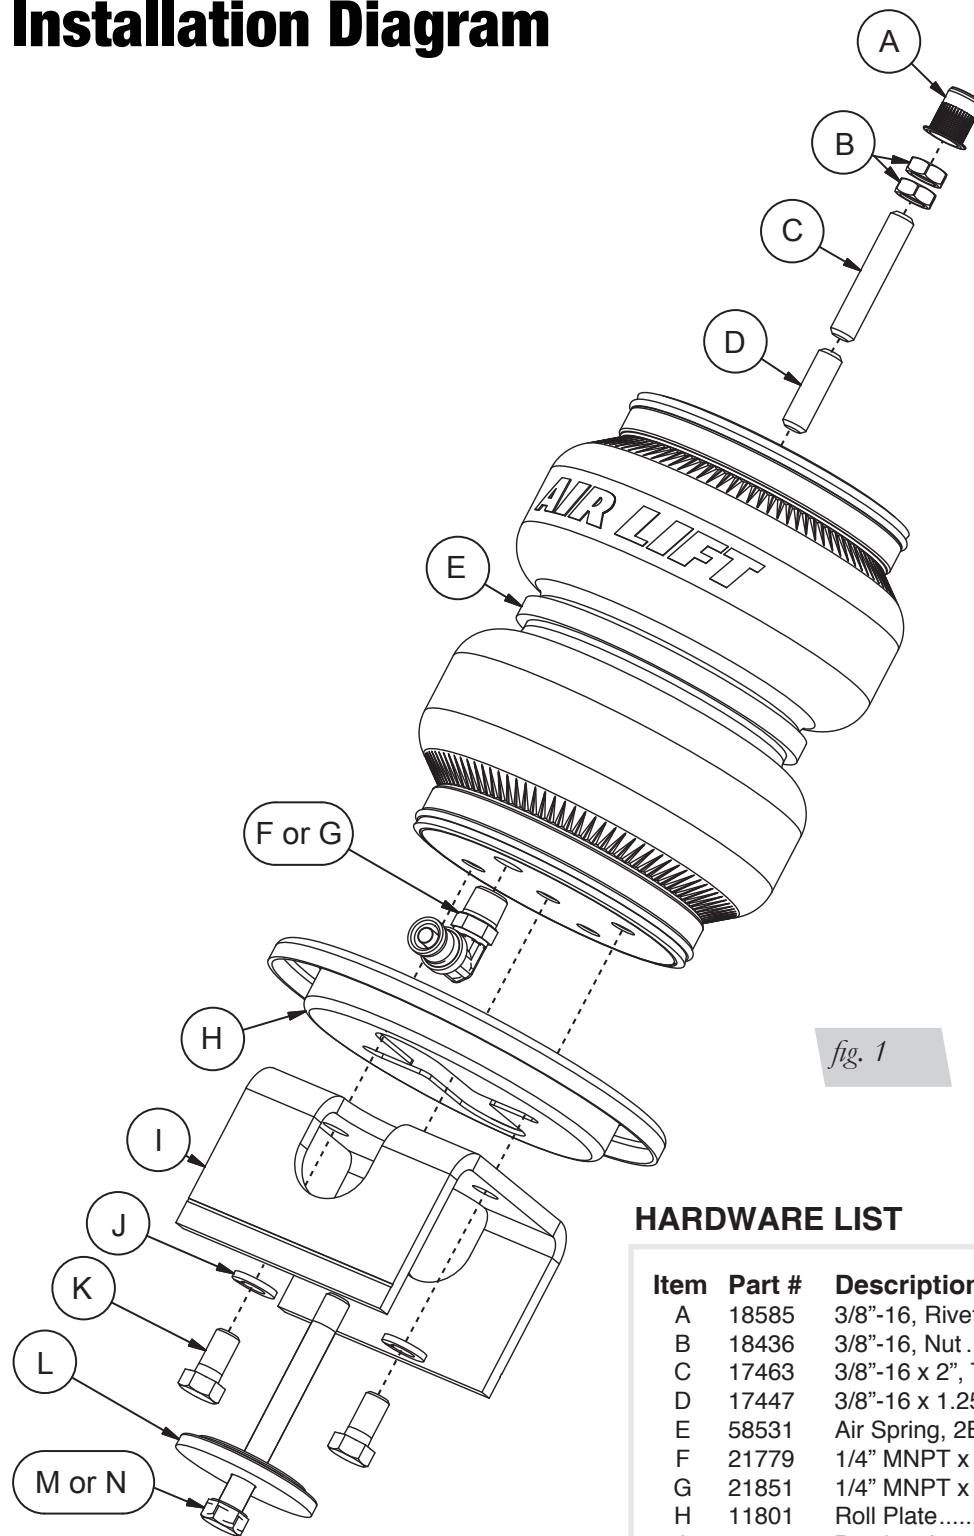
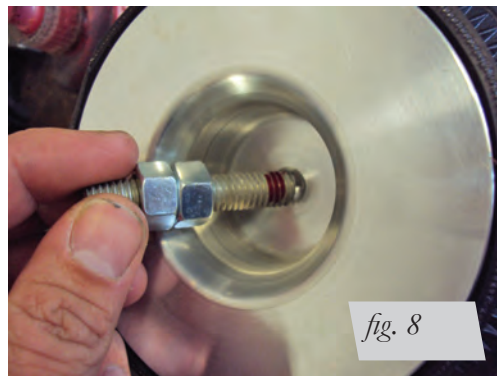

fig. 1
fig. 8
3. Two lengths of threaded studs are included with the kit (C or D, Fig. 1). The shorter stud is for vehicles that retain the coil spring perch bump. The longer threaded stud is for vehicles without the spring perch bump. Apply thread-locking compound to the threads of the upper end cap and thread in the appropriate stud. Take the supplied nuts and thread both onto one stud (Figs. 8 and 9). Using the nuts jammed together, tighten the stud into the end cap until it bottoms (Fig. 10). Remove both nuts (Fig. 11).
If the lower bracket has been cut, the shorter length bolt should be used to secure the assembly to the lower transverse link with the centering washer and lock washer. Uncut brackets use the longer bolt (C or D, Fig. 1) (Fig. 25).